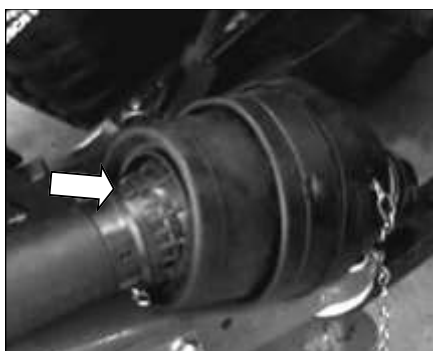

Fig. 54
- A smaller slipper bearing supports the safety tube. This is greased through a hole in one of three tags visible in the moulded plastic cone section (Fig 54). It requires the use of a needle-nosed grease gun fitting. Apply **2 pumps** of multi-purpose grease.